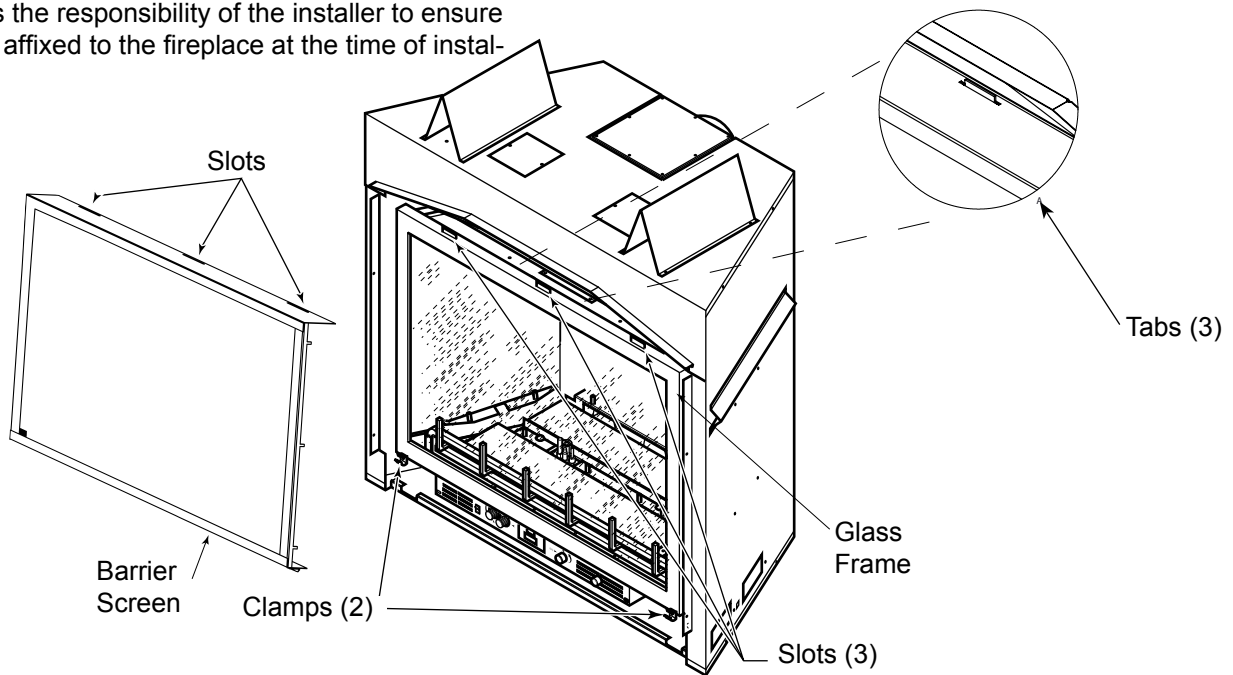

Figure 49
2. Hang barrier screen over the three tabs located on the top of the fireplace using the corresponding slots in the barrier screen frame. *Figure 49*
3. Push the bottom of the barrier screen into the clamps at the bottom of the fireplace and close the latches. *Figure 49*